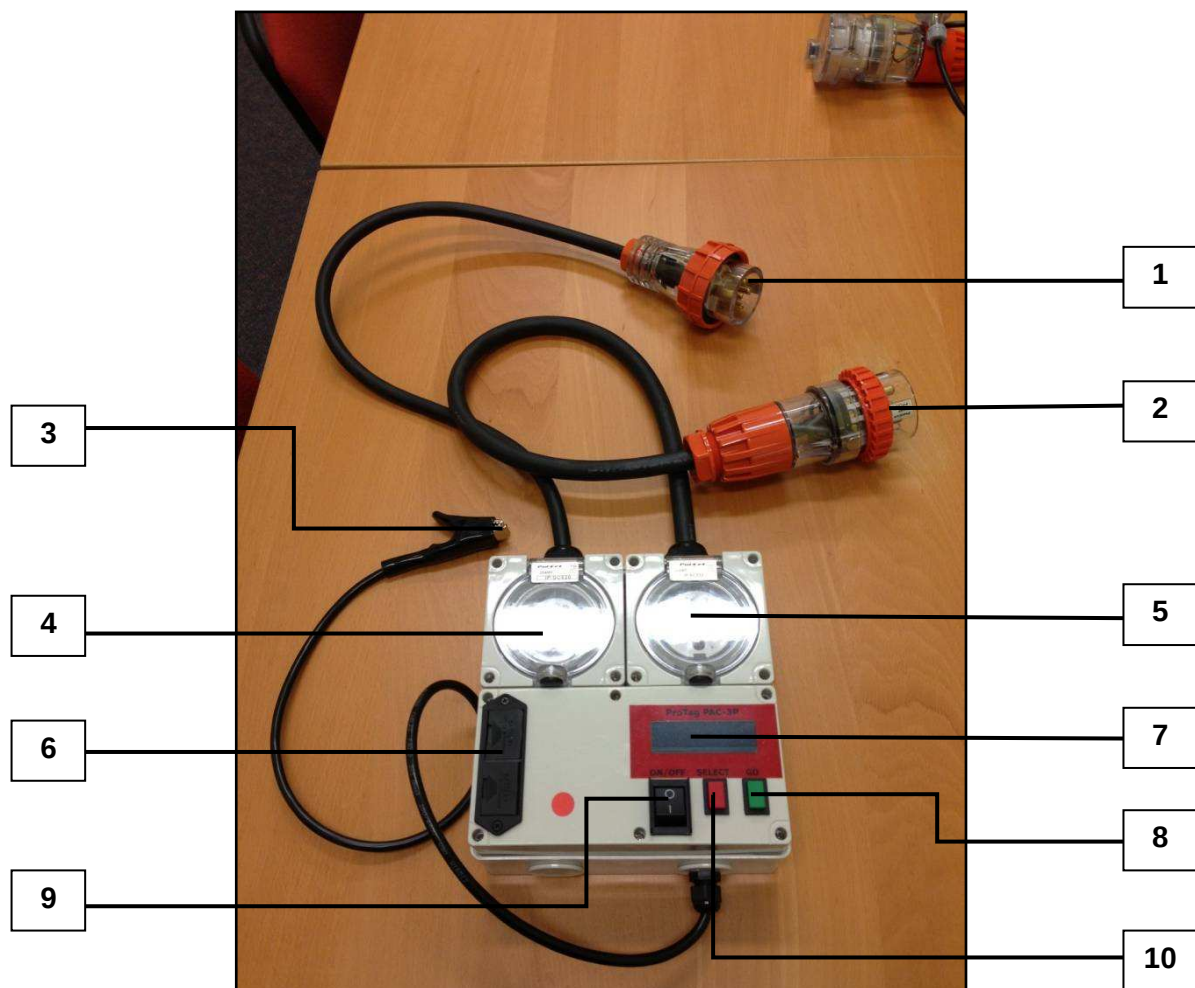

Figure 1
1. Pull the battery compartment up (Figure 1 – No 6)
To turn the PAC-3P on, switch the power button (Figure 1 – No 9) to the ON position.
- 3) Check that PAC-3P is switched ON (Figure 1 – Button 9).